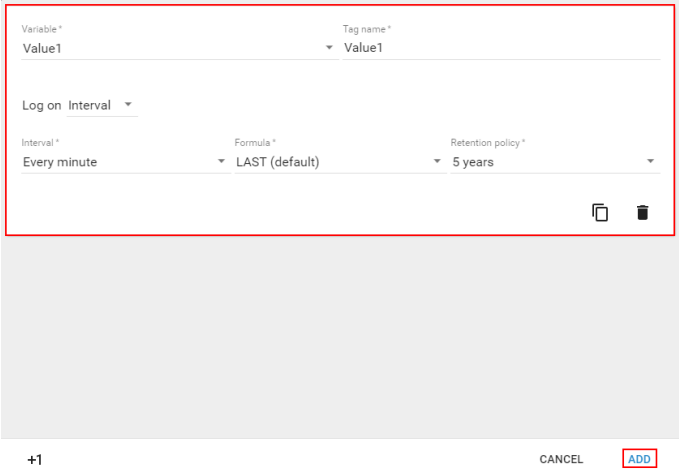

Figure 5.79 Tag editor interface.
4. In the tag editor: enter a data source, select the logging interval and data retention policy (Figure 5.79).